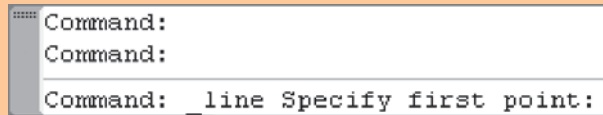

Fig. 2.3 The prompt appearing at the command line in the Command palette when Line is “called”
- (b) The prompt **Command: _line Specify first point** appears in the command window at the command line (Fig. 2.3).